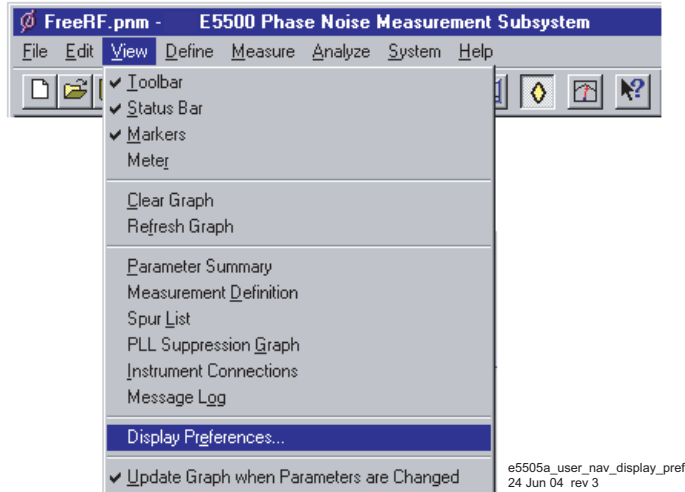

Figure 266 Select display preferences
- 1 On the **View** menu, click **Display Preferences**. See Figure 266.